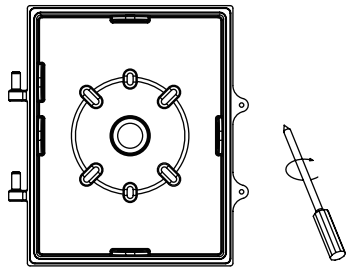

Figure 9
- 8** Align the holes of the driver box with holes on wall and tighten screw (Figure 9)